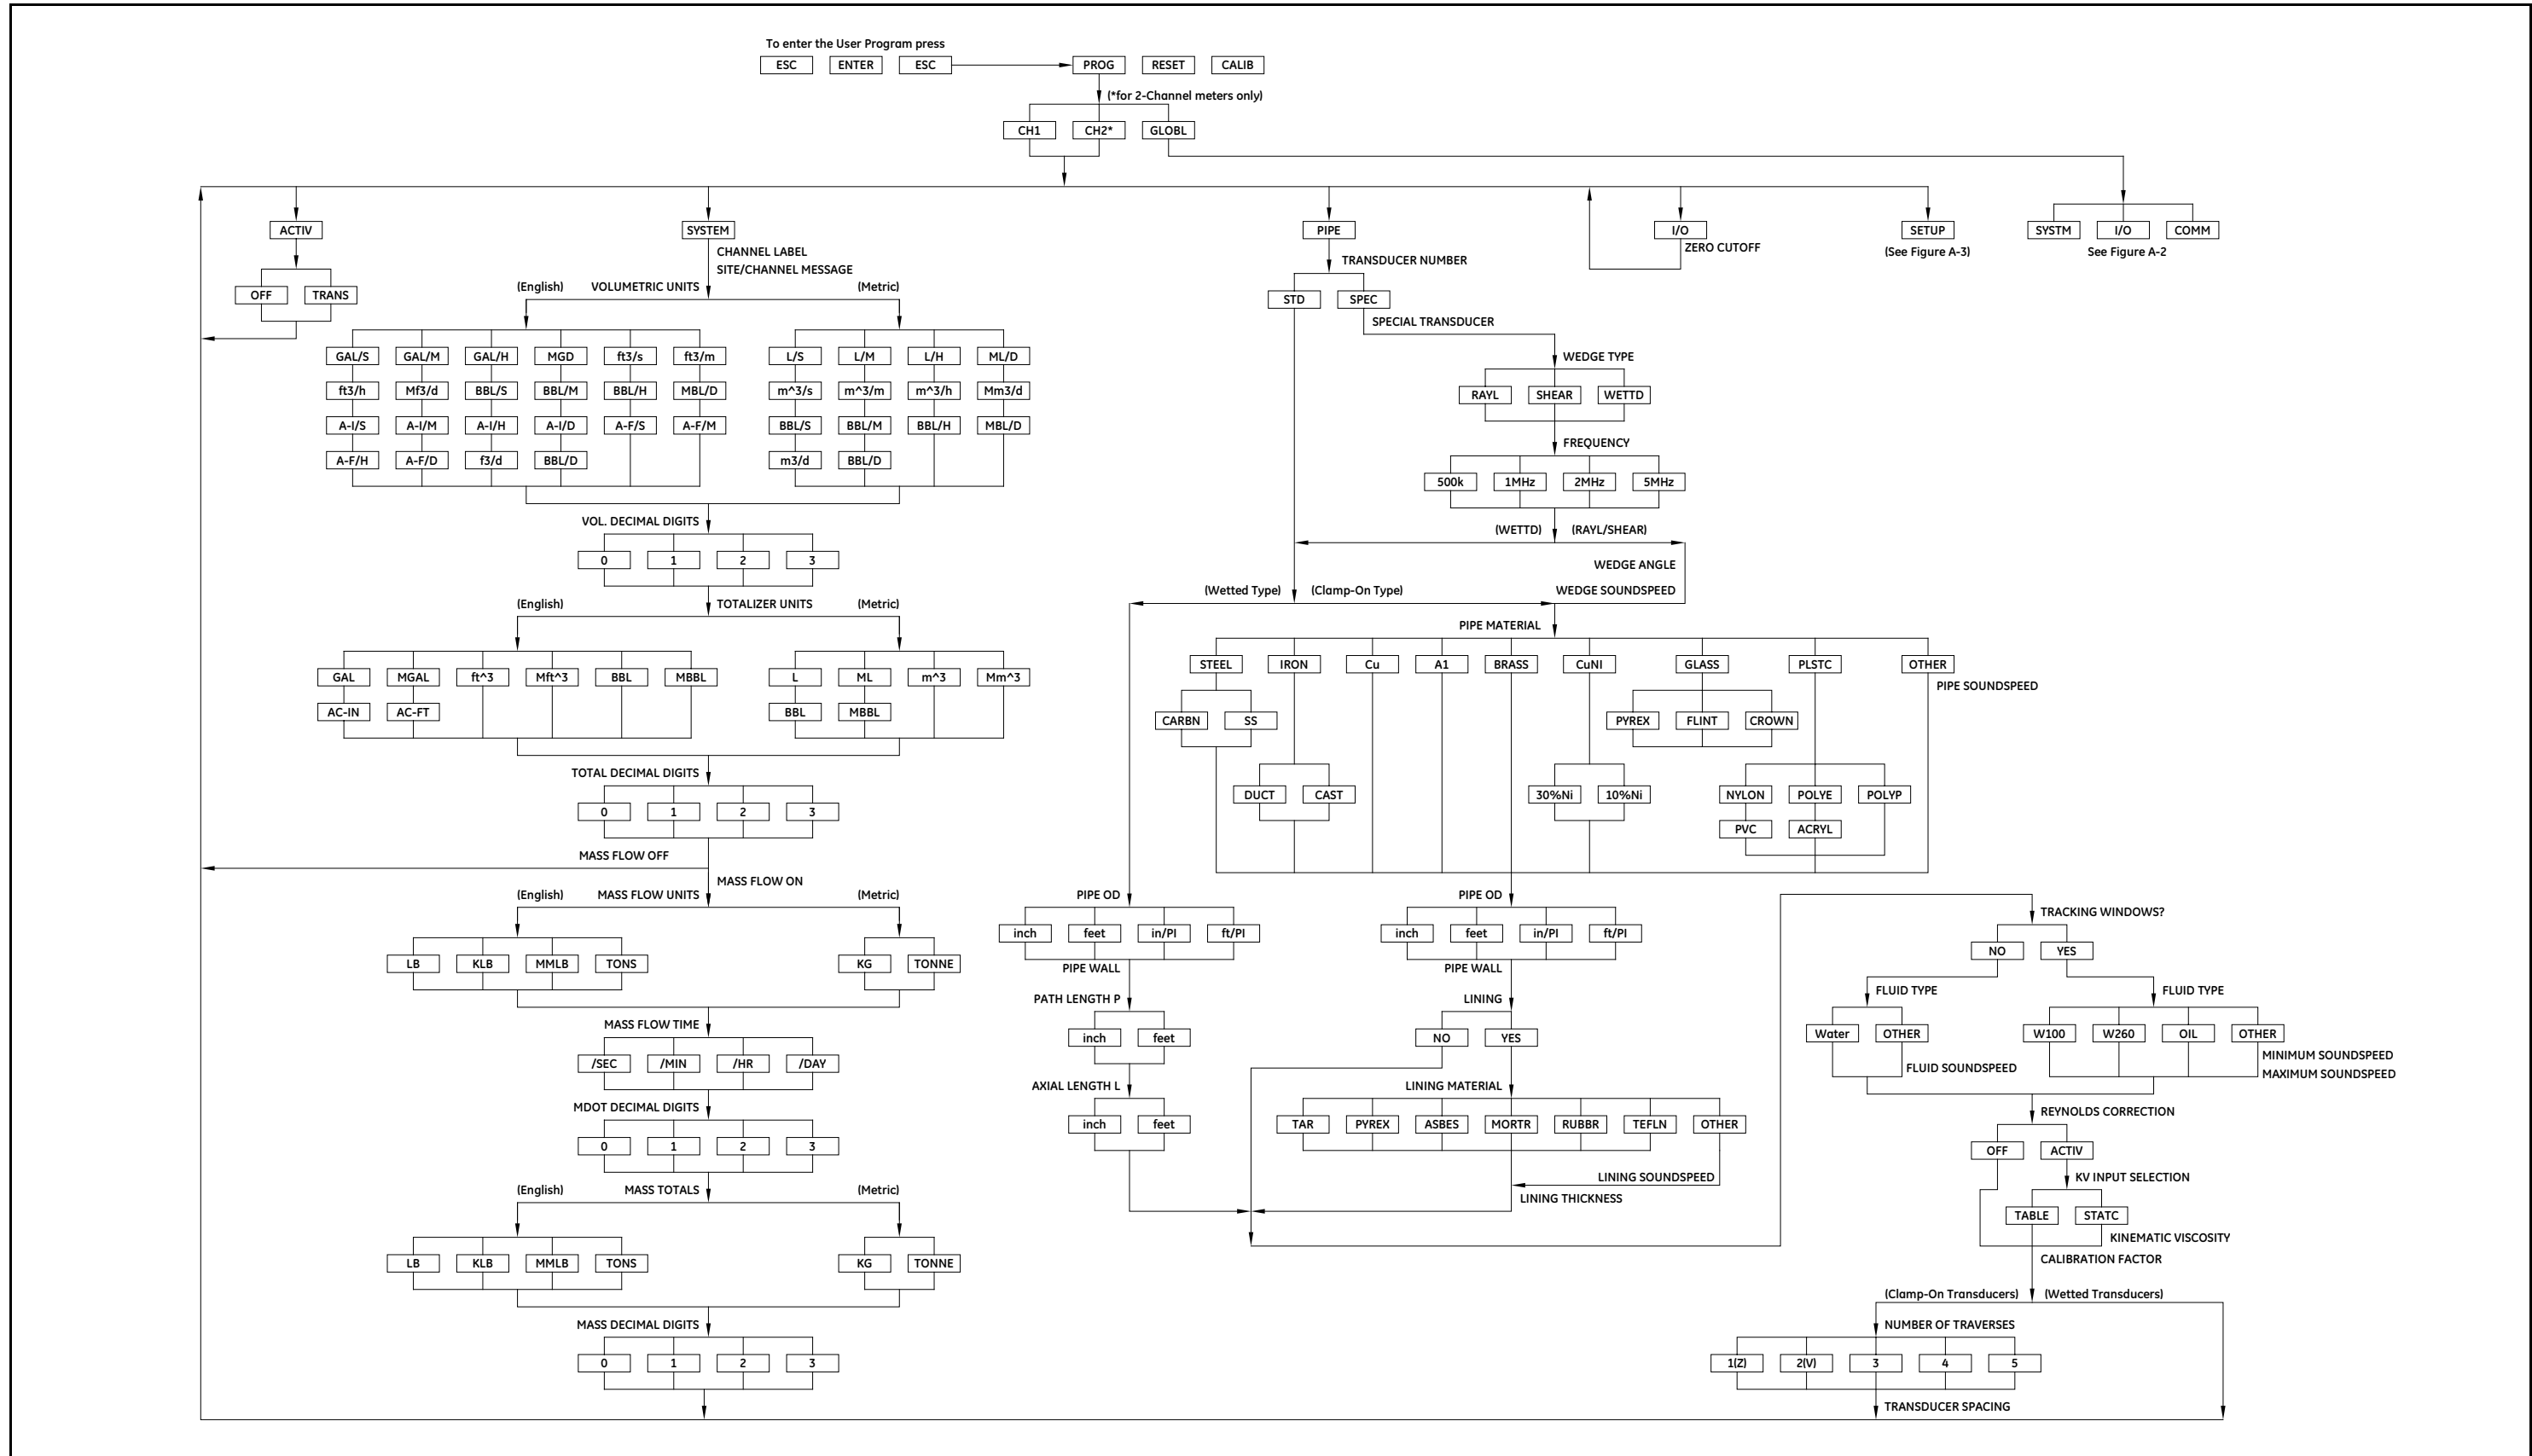

Figure 9: The CHx>ACTIV, SYSTM, PIPE, and I/O Menu Map
- Figure 9, "The CHx>ACTIV, SYSTM, PIPE, and I/O Menu Map," on page 85